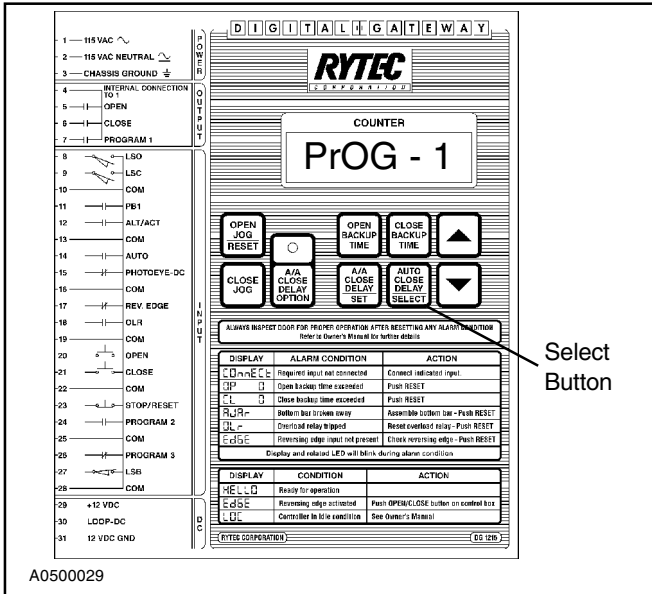

Figure 20
- 3. Once you have entered the program mode, the display will show the various program menus. Press the Select button to scroll through the programs. (See Figure 20.)